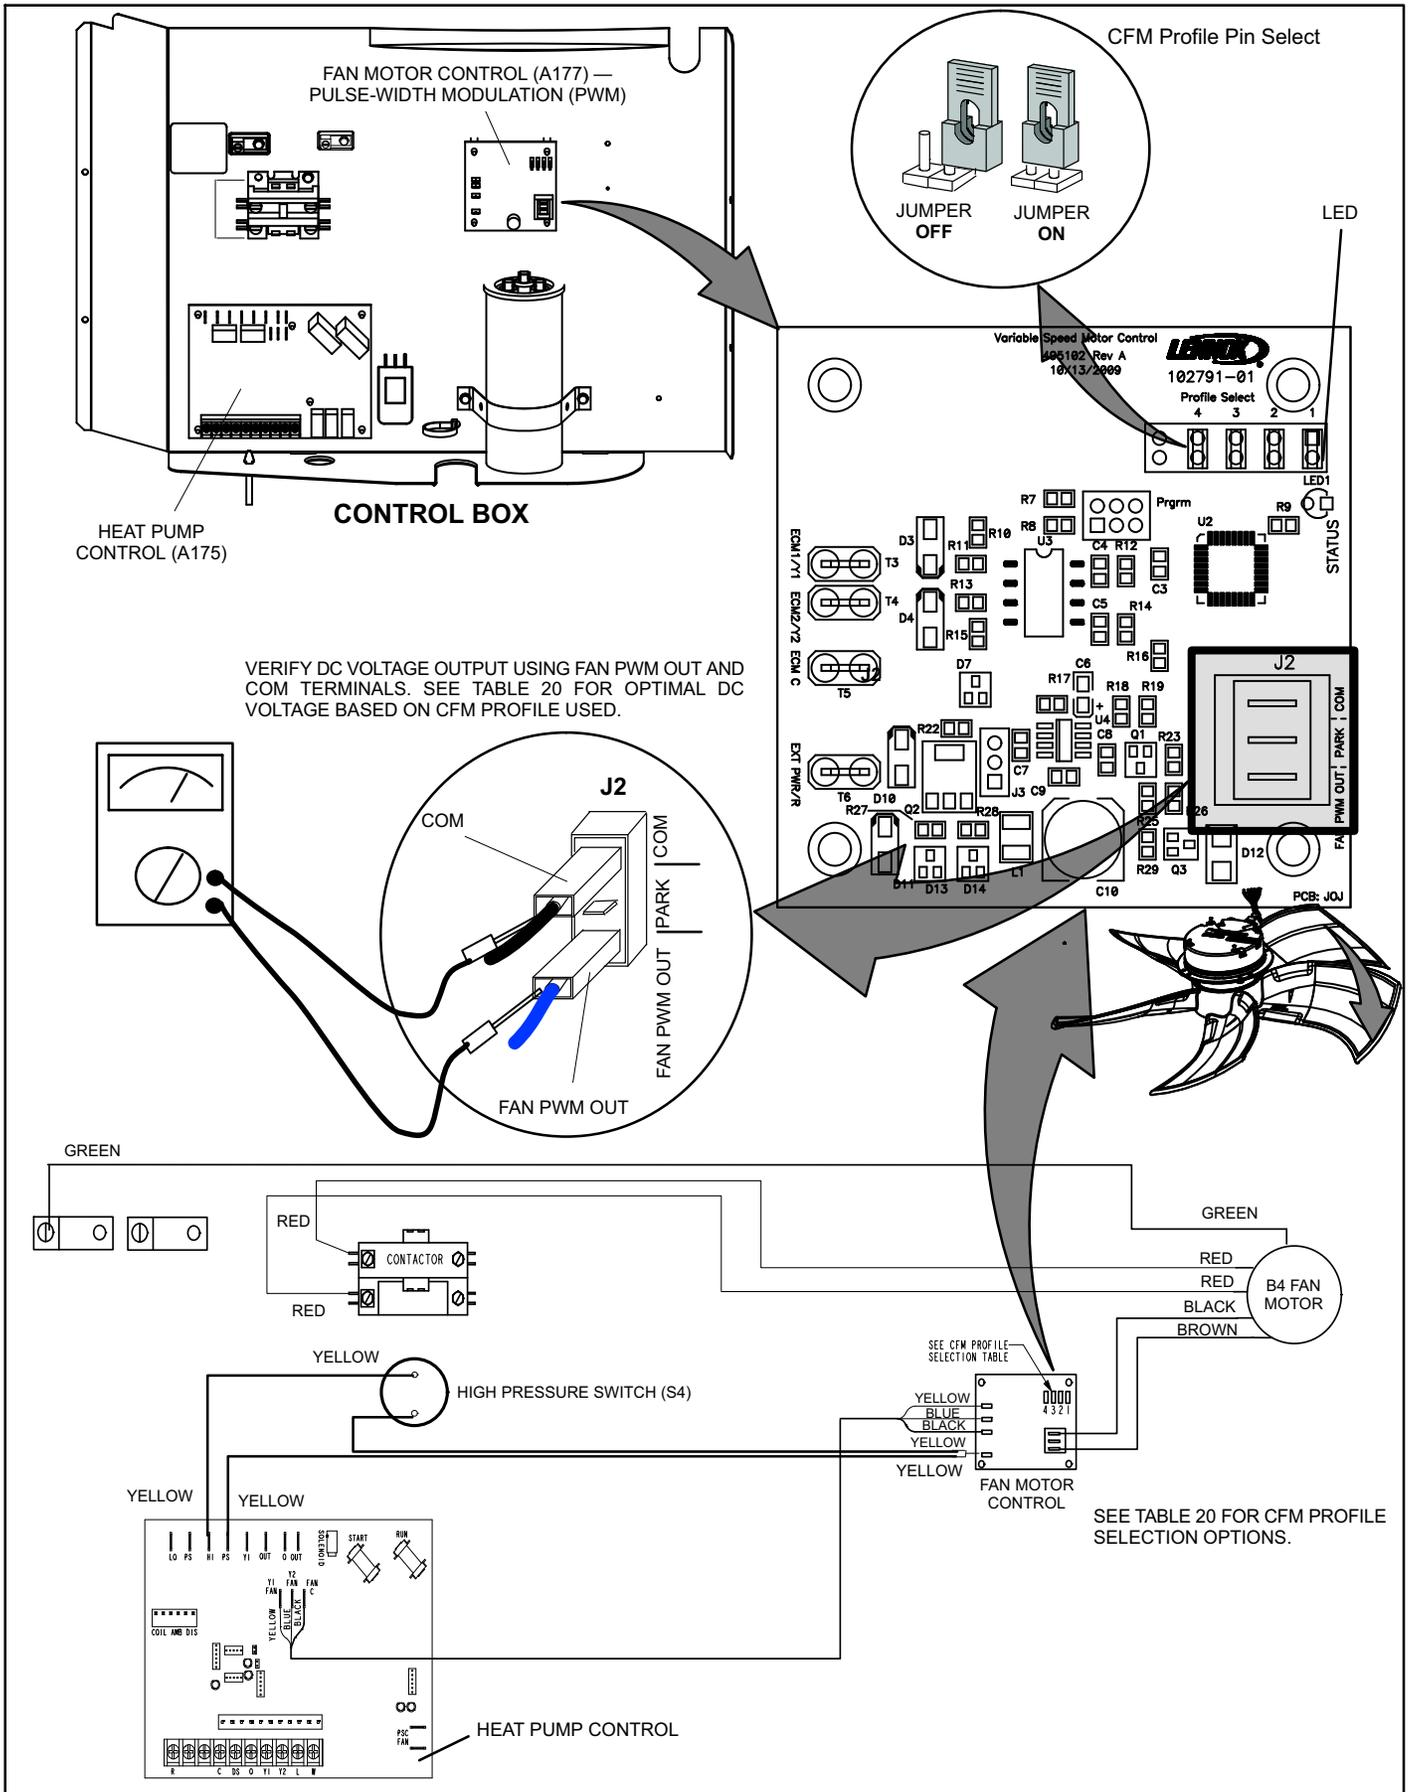

Figure 22. Fan Motor Control, Wiring, Jumper Settings, Testing and LED Location
3. Test DC voltage output on the fan motor control's J2 terminals (see figure 22) while under full load. The actual voltage tested should match the voltage listed in table 20 for the specific unit.